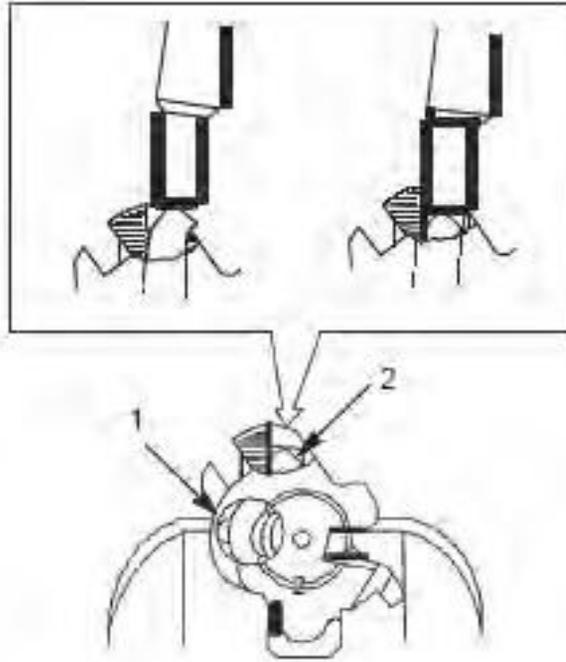

Figure 4. Extractor Pin, Extractor.
3. Insert chamfered end of new extractor pin (Figure 4, Item 2) (component of parts kit, gun, extractor) with bend toward the center (firing pin hole) of bolt to hold extractor (Figure 4, Item 1) in place.
4. Using a 5/32 (4 MM) punch, seat the extractor pin (Figure 4, Item 2) to countersink depth as shown. Visually check that the extractor pin is below the surface of the other side of the bolt.